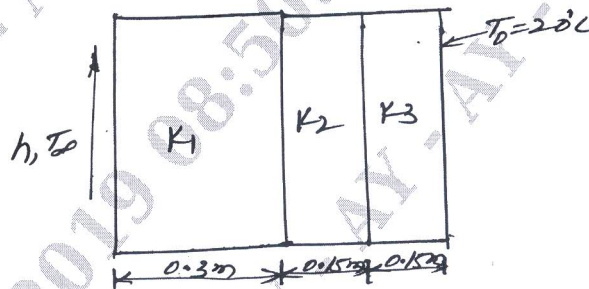

Fig.Q7(b)
b. A composite slab consists of three materials with thermal conductivities of 20 W/m °C, 30 W/m °C, 50 W/m °C and thickness 0.3m, 0.15m and 0.15m respectively as shown in Fig.Q7(b). The outer surface is at 20°C and the inner surface is exposed to the convective heat transfer coefficient of 25 W/m² °C and a medium at 800°C. Determine the temperature distribution within the wall. (12 Marks)